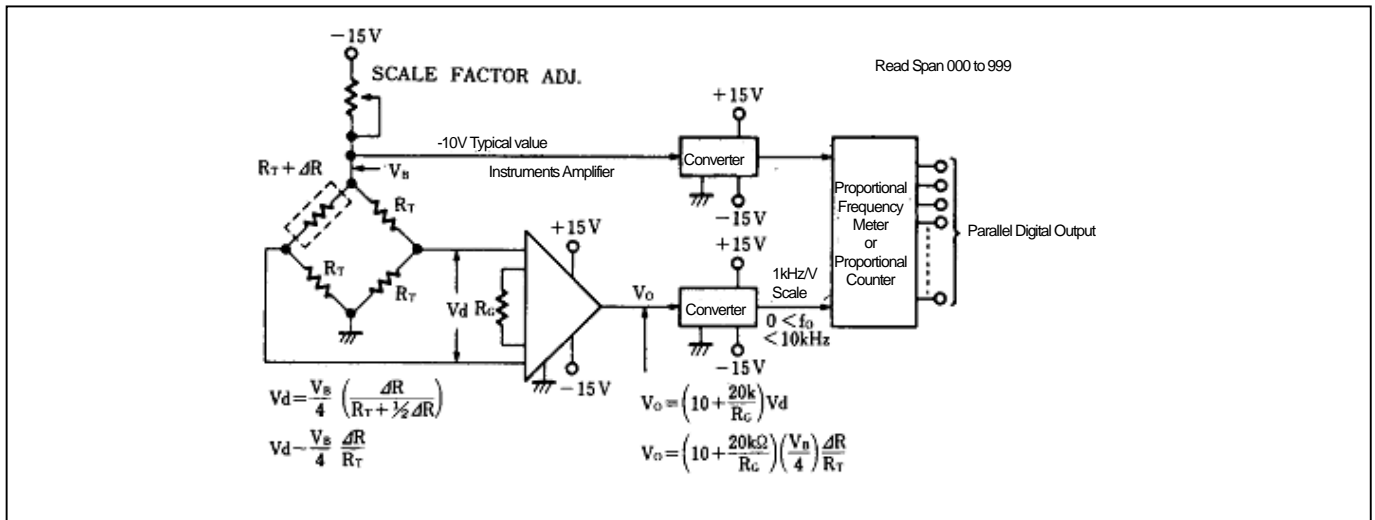

Figure 12. Proportional meter system
The accuracy of the systems is better on used proportional method, for measurement equipment. Use the NJM4151, Figure 12 shows the proportion by weight measurement system. First, the strain gauge bridge circuit, and the cells of weight detecting detect the weight. Then generates a difference voltage. The Difference voltage (VD) for the converting bridge approximated  $V_B \Delta R / R_T$  in a small range of resistance changes of strain - gauge. Necessary information is  $\Delta R / R_T$  and the voltage (VB) across the bridge must be stable. Instrumentation - amplifier amplify the low input differential voltage (VD). It is used to eliminate the common mode input voltage. The voltage across the bridge (VB) converted to frequency (fB). Then, the output voltage amplitude (V0) converted to frequency (f0). Hereby, ADC is designed for proportional meter. The voltage across the bridge converter is 1Hz / V. Amplifier voltage converter is 1kHz / V conversion factor. Proportional counter and frequency meter type of proportional will be used to convert frequency ratio  $f_0/f_B$ . The first advantage of conversion technology by the proportional method is that it is independent of the voltage across the bridge. Frequency (fB) is proportional to the bridge voltage (VB). Output frequency (f0) is proportional to the VB.  $f_0/f_B$  is independent of VB, only proportional to  $\Delta R / R_T$ .